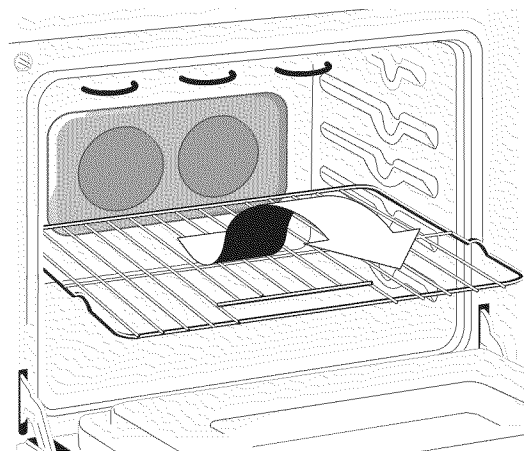

Fig. 4
**To remove an oven rack**, pull the rack forward until it stops. Lift up front of rack and slide out (fig. 4).